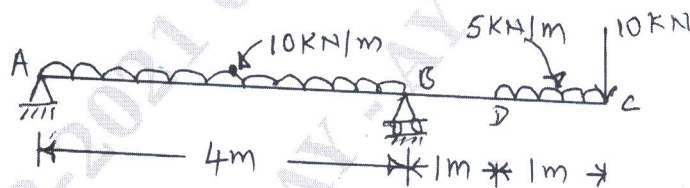

Fig.Q.5(b)
- b. For the beam shown in Fig.Q.5(b) draw SFD and BMD, show the salient values on the figure. Locate the point of contra flexure if any. (14 Marks)